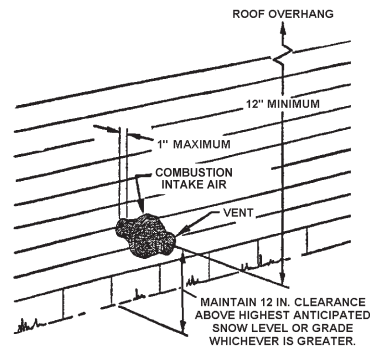

FIGURE 25.
PROCEDURE 2 SIDE WALL TERMINATION, SEE FIGURE 25.
6. Secure assembly to structure as shown in Figure 25 using field-supplied metal strapping or equivalent support material.
NOTE: Ensure termination location clearance dimensions are as shown in the diagrams found in Figure 25 and 26. When extending the length of the 4" pipe, the added length beyond 21-1/8" must be deducted from the maximum equivalent feet of vent pipe.